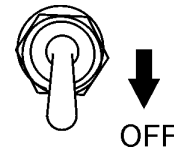

Figure 25. Idle Control switch (OFF)
3. Place idle control switch (Figure 25) in the **OFF** position.